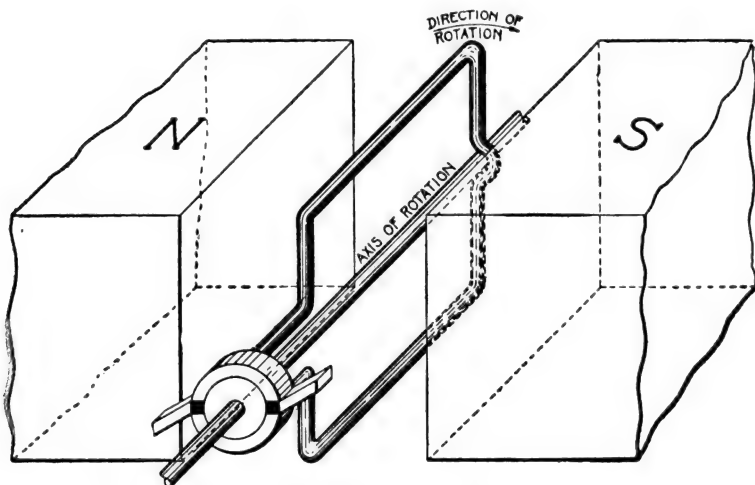
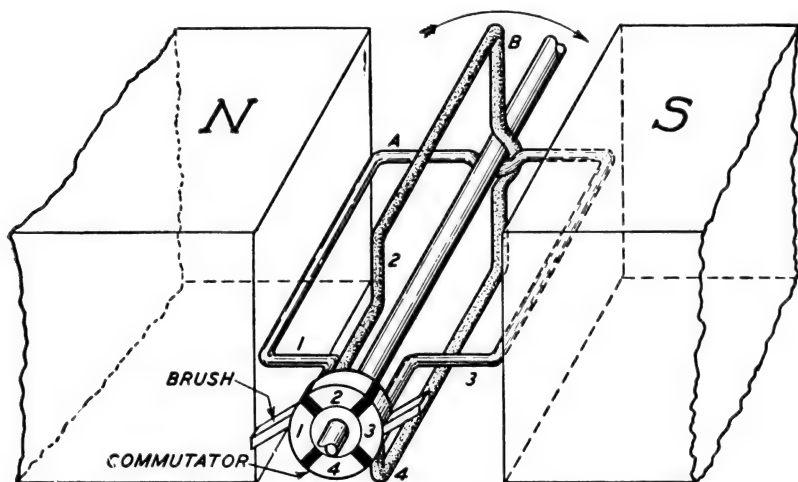

Fig. 12. Simple Direct-Current Generator
Fig. 14. Direct-Current Generator Composed of Two Loops of Wire and a Commutator of Four Segments
The simplest form of commutator consists of a metal ring divided into two equal parts and mounted on a tube of insulating material, the two halves of the ring being insulated from each other. Each half of the ring should be connected to one of the ends of wire formed by opening up the loop, Fig. 12. The metal parts composing the commutator are called segments. The two segments in the commutator are shown in Fig. 12. The electrical connection to the external circuit is made by means of suitable brushes which make electrical contact with the segments of the commutator. Two brushes are required with a two-part commutator and single loop, as shown in Fig. 12, and these brushes should be equally spaced on opposite sides of the commutator, and in such a
The fluctuation in the value of the e.m.f. between the brushes with the arrangements shown in Fig. 12, can be reduced by using two more commutator segments and a second loop. In this case the metal ring is cut in four parts instead of two, thus forming a commutator composed of four segments instead of two. The two loops are placed at right angles to each other and the terminals of each loop are connected to commutator segments that are opposite to each other instead of adjacent to each other. The connections of the loops and segments are shown in Fig. 14. Two brushes are required, and they should be placed exactly opposite each other and in such a position around the commutator that they pass from one segment to the next when the planes of the two loops are making angles of 45 degrees with a plane perpendicular to the direction of the magnetic field. The proper position of the brushes is shown in Fig. 14. Let us now consider the operation of this machine.
e.m.f. in *B* is zero). When the armature has turned through an angle of 45 degrees, the commutator segments connected to loop *A* move from under the brushes and the commutator segments connected to loop *B* move under the brushes. This results in loop *B* now being connected in series with the external circuit instead of loop *A*. Loop *B* will remain in electrical connection with the external circuit for the next 90 degrees' rotation of the armature, or one quarter turn, when the segments connected to *B* move from under the brushes and those connected to *A* move under the brushes. From the above statements and a careful inspection of Fig. 14 it is apparent that the loops *A* and *B* are alternately connected to the external circuit, and each time either of them is connected it is for one quarter of a revolution of the
**Open- and Closed-Circuit Armature Windings.** In an open-circuit winding the different loops do not as a whole form a closed circuit, but each loop is in circuit only when the commutator segments to which it is connected are in electrical contact with the brushes. The windings shown in Figs. 14 and 16 are of the open-circuit type.